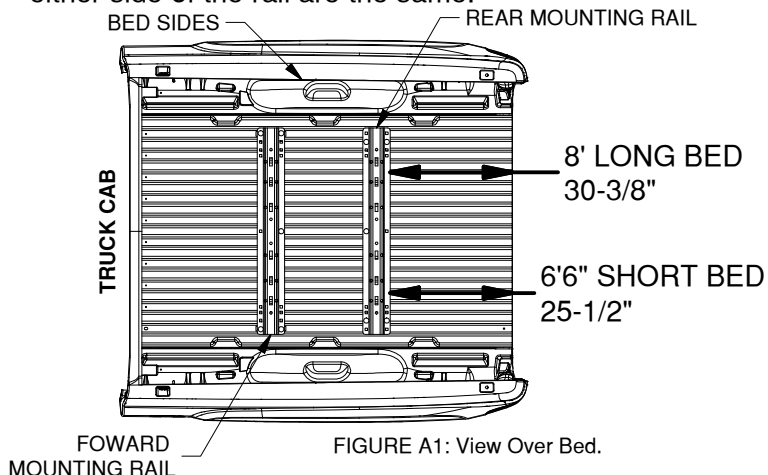

FIGURE A1: View Over Bed.
- Layout the rear mounting rail.** Place a mounting rail onto the bed of the truck. Hook a tape measure over the rear edge of the bed (not on any part of the tailgate), measure the location for the mounting rail as shown in figure A1. Next, center the mounting rail in the bed by measuring the distance on either side from the edge of the rail to the sides of the bed. The rail will be centered when both measurements on either side of the rail are the same.